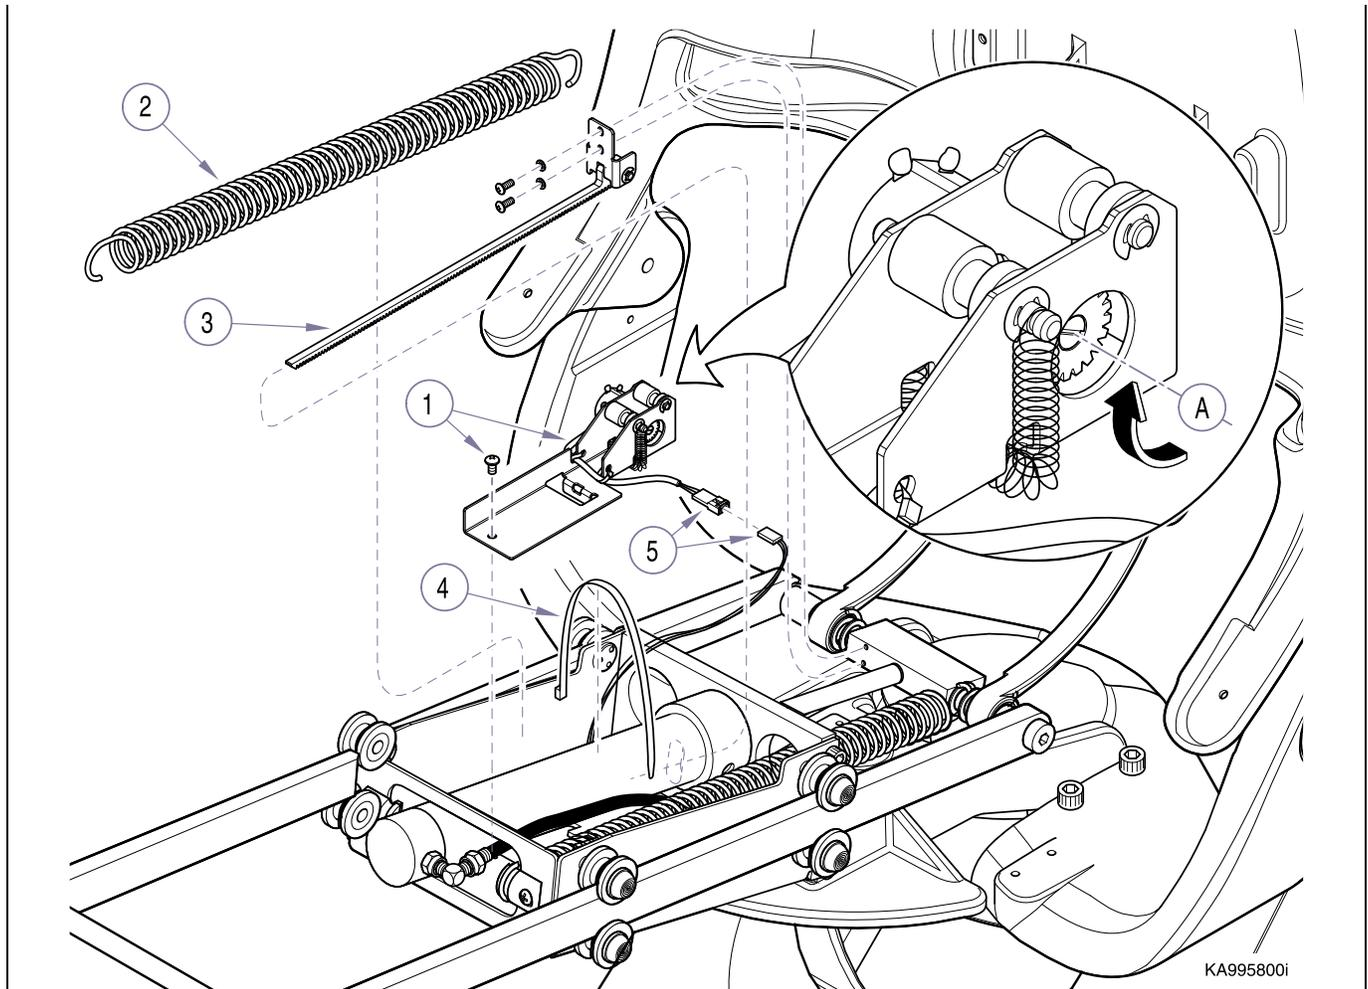

Figure 4-23. Back Potentiometer
If necessary, back positioning potentiometer (1, Fig. 4-23) can be over-riden in order to operate Back section.
- (3) Unplug chair power cord, disconnect lift spring (2, Fig. 4-23) on patient's right side and remove hydraulic cover (refer to para 4.3).
- (4) Remove gear rack (3), two screws.
- (5) Cut wire tie (4) and disconnect wire harness plugs (5).
- (6) Remove potentiometer assembly (1), one screw.
- (2) Disconnect power supply to chair.
- (3) Install potentiometer assembly (1, Figure 4-23).
- (4) Connect wire harness plugs (5) and secure hydraulic hoses and wire to seat cylinder with wire tie (4).
- (5) Rotate (A) potentiometer spur gear (see arrow) until it stops at end of travel.